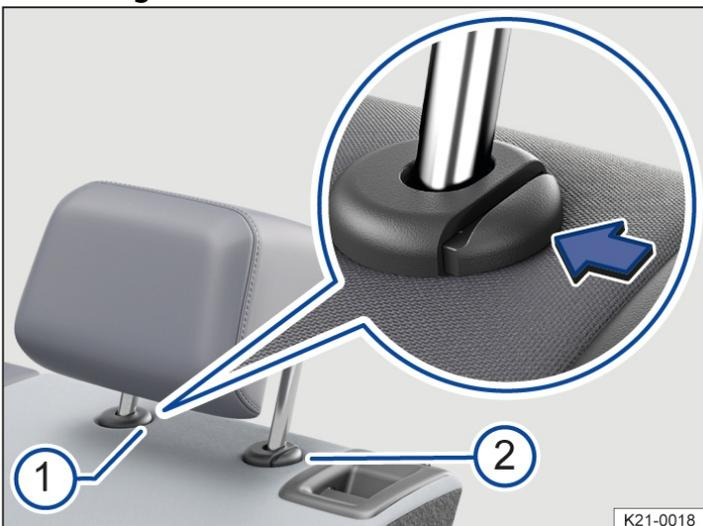

Fig. 2 Illustration: removing rear head restraint.
3. Press button → Fig. 2 **1** on the head restraint guide.